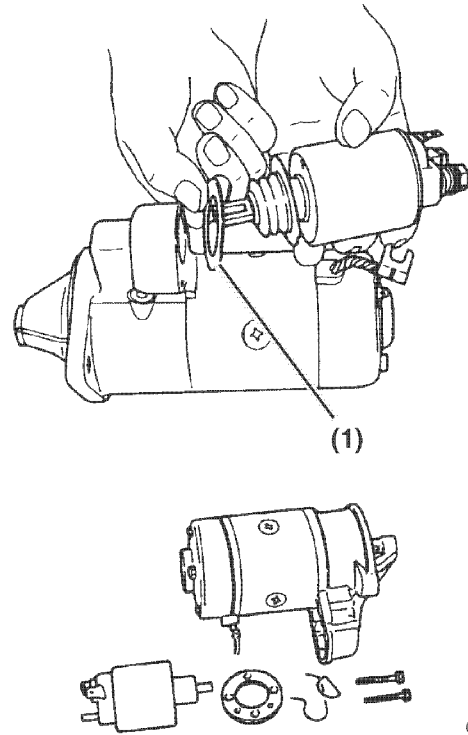

Figure 8-6
3. Remove the solenoid switch and dust covers (**Figure 8-6, (1)**).